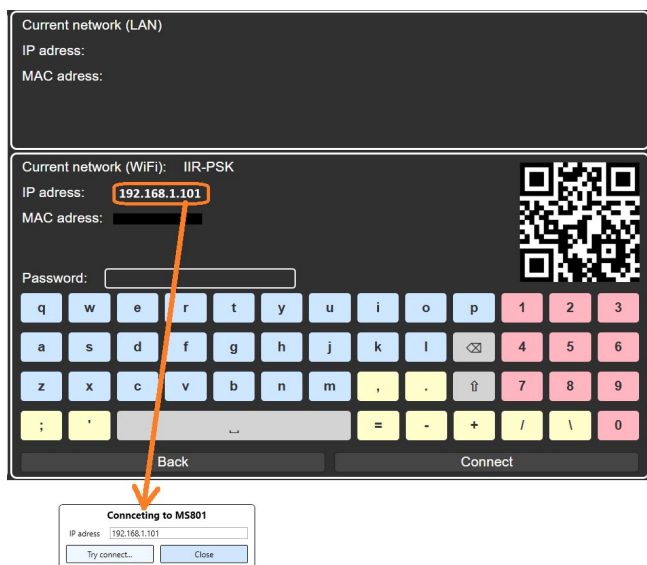

Figure 26
3. Next, click the “**Connect to MS801**” button — a connection window will appear, where you need to enter the **IP address** of the tester (see Figure 26). The IP address can be found on the tester in the **Network Setting** menu.